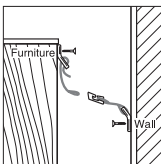

Figure 4
- Screw wall brackets into wall studs using the 1 1/2" screws provided. (Fig. 4)
- Locate the brackets marked "furniture" and the areas previously marked on the furniture top in Step 1. Using these brackets, mark and drill pilot holes so brackets are aligned with previous marks. Screw the brackets into the furniture top using the 1" screws provided. (Fig. 4)